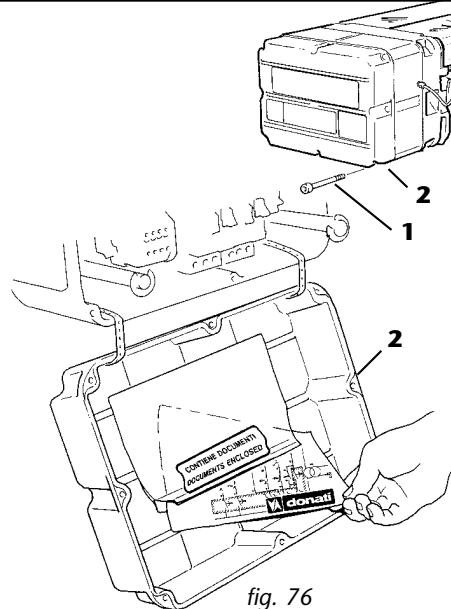

fig. 76
3. Completely unscrew the screws -1- which fix the cover in the space on the electrical connections side (the one opposite the motor) remove the cover, -2- and check that there is an electrical circuit diagram inside the space (fig. 76).
6. Put the electrical circuit diagram back in the connections space, put the cover back -2- taking care not to damage the gasket and/or the related holding surface and tighten all the screws completely -1- (fig. 76).